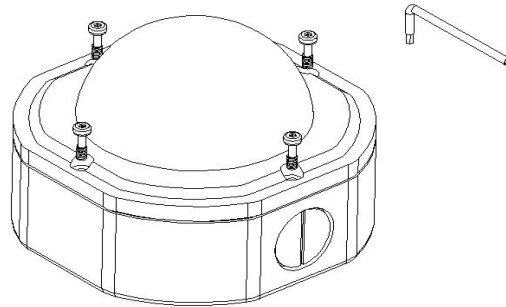

Figure 1
1. Loosen the 4 fix screws on the housing cover by using the attached wrench (Figure 1).